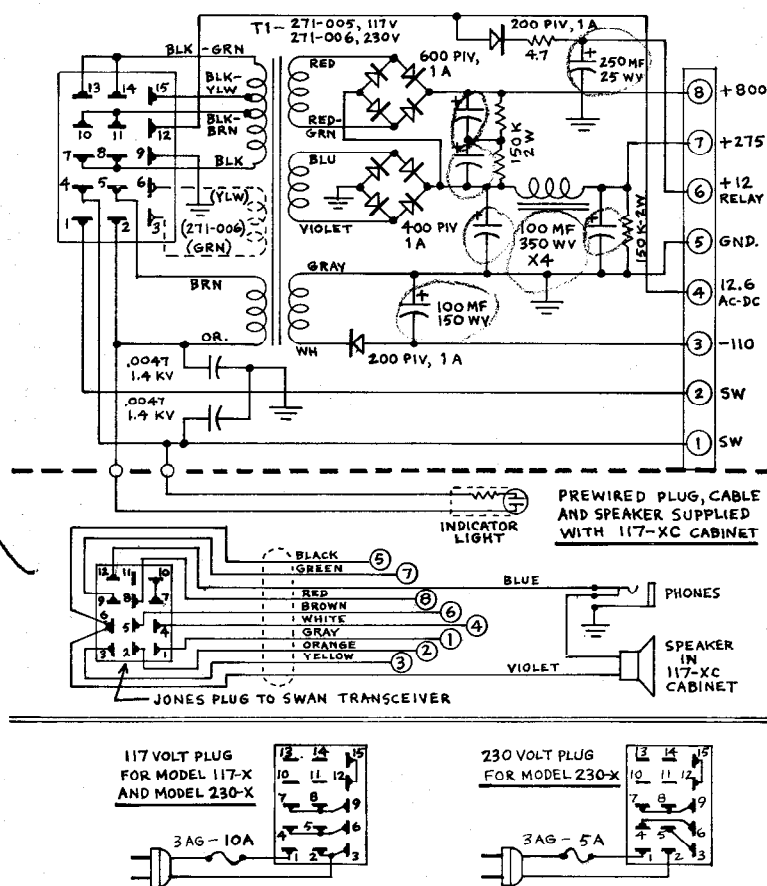

FIG. 9 MODEL 117-X (230-X) POWER SUPPLY
- Detach the D.C. Module, and plug in an A.C. line cord in place of it. Before applying power, disconnect the brown cable wire going to terminal (1) of the A.C. supply and connect a jumper from terminal (1) to (2). Temporarily tape the brown wire to keep it from shorting to ground, since it will be carrying 12 volts D.C. Now the power supply will operate when the A.C. line is plugged in, although the transceiver filaments will still be operating on the battery. This arrangement will be useful primarily for checking out the A.C. portion of the supply when trouble shooting.
- To operate the transceiver entirely on the A.C. line, it will be necessary to do the following: Disconnect the 5 wire cable going from the the transceiver to the A.C. portion of the supply. Replace it temporarily with a 10 wire cable and hook-up as illustrated in the schematic diagram Fig. 9. This is the same cable and speaker hook-up used in the matching cabinet, 117-XC. Using the D.C. supply in this manner will prove useful for portable or